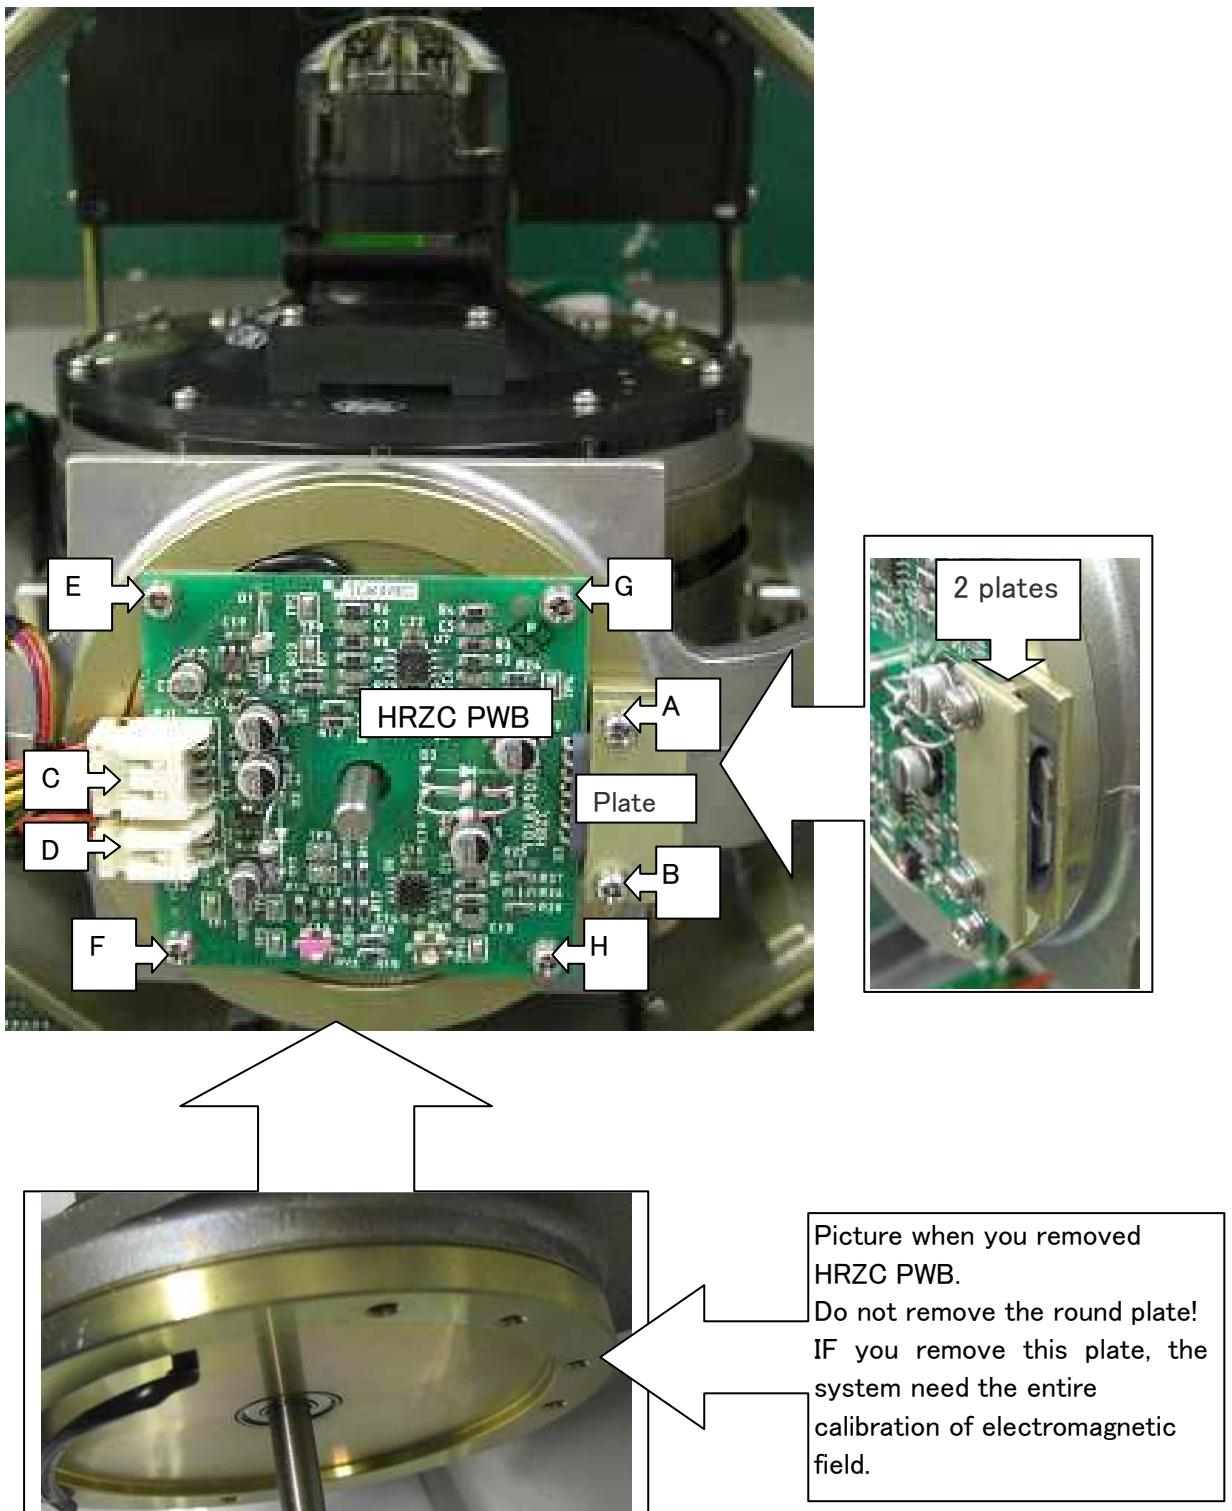

Fig. 7-2 HRZC PWB and round plate
- 3-2. Install HRZC PWB (New) and 4 back screws “E”~“H” as shown in Fig 7-2.
- 3-3. Put back 2 connectors “C”~“D” as shown in Fig 7-2.
- 3-4. Put back 2 plates with 2 screws “A”~“B” as shown in Fig 7-2.